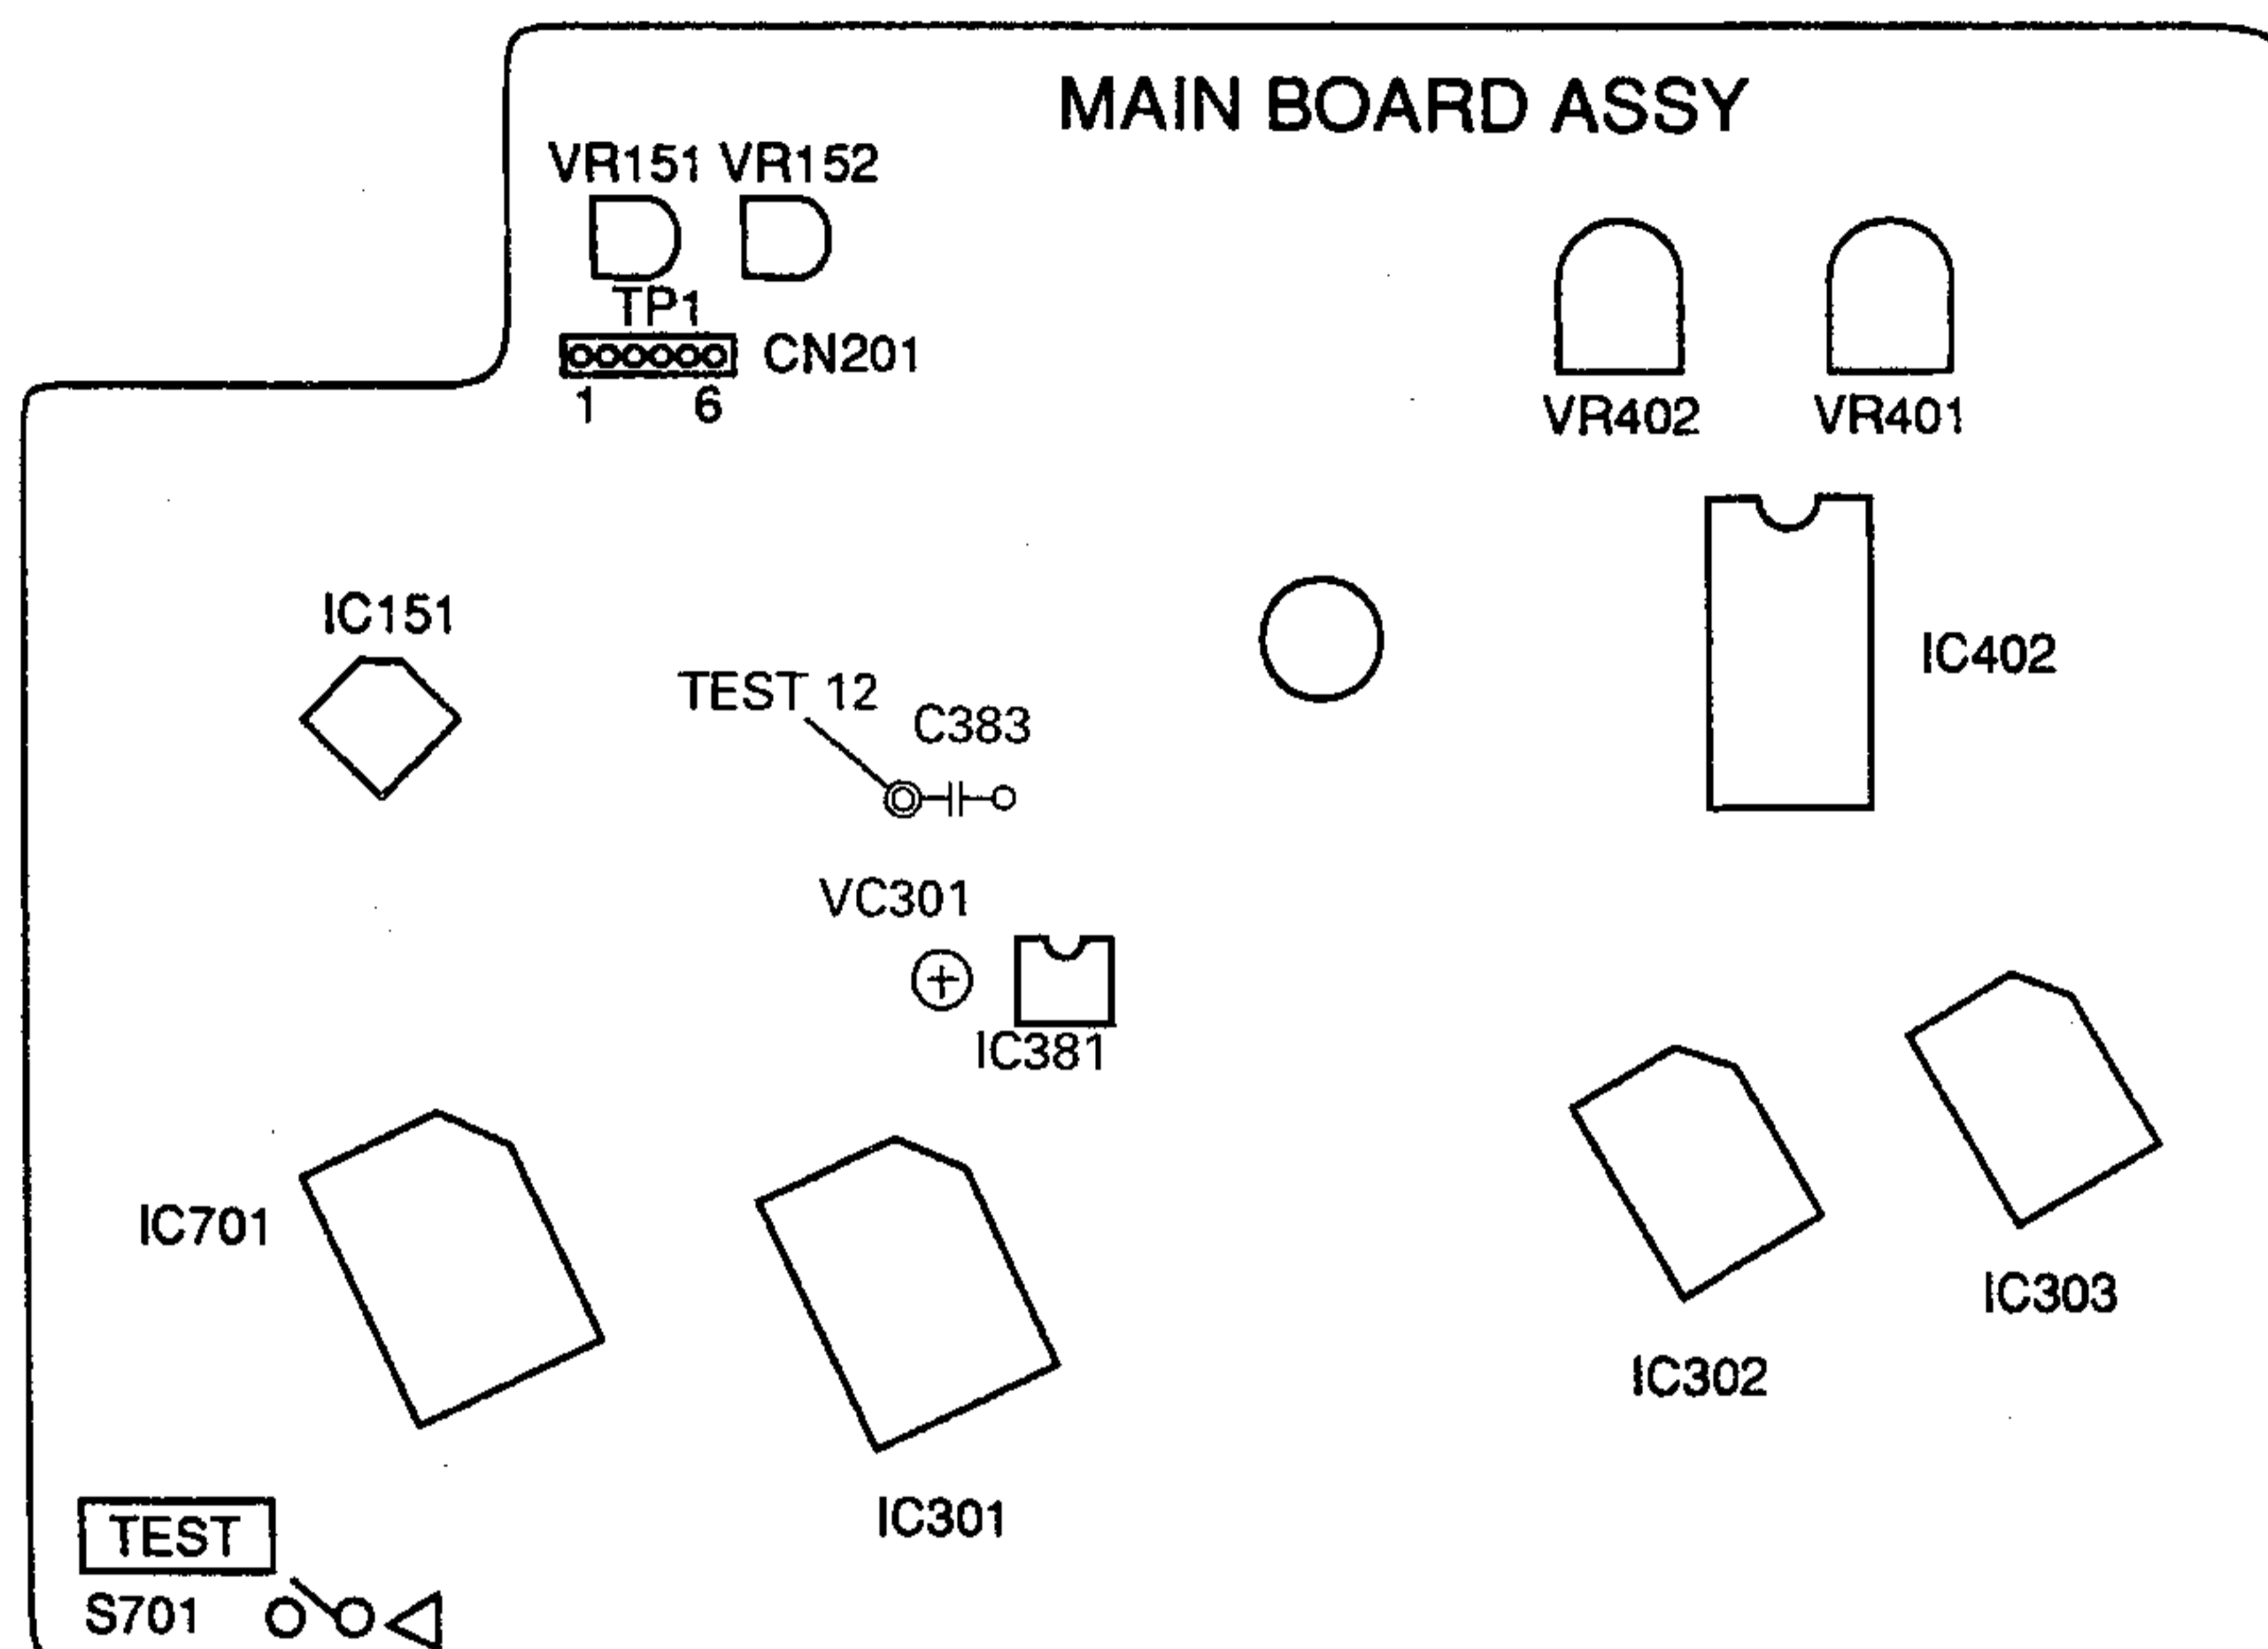

Figure 1. Adjustment Locations
2. Close the door while pressing the test mode switch (S701) on the MAIN BOARD ASSY. (See figure 1.)